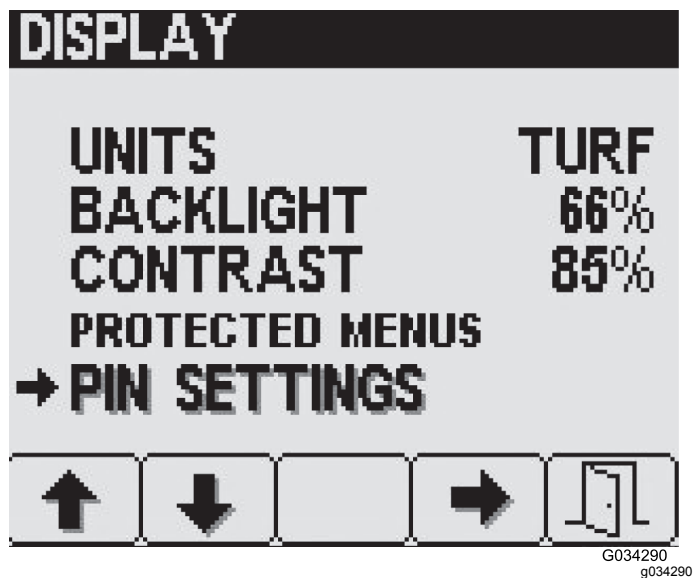

Figure 24
1. Press button 2 on the Display settings screen until you reach PIN Settings, then press button 4 to select PIN Settings (Figure 24).